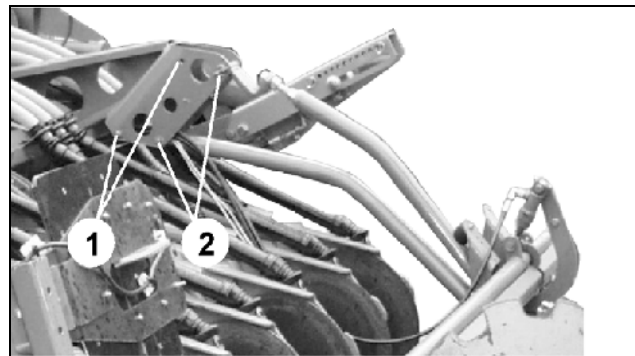

Fig. 37
- Make use of the fixing points (Fig. 37/1) when using WS or ROTEC-coulters.
- Make use of the fixing points (Fig. 37/2) when using ROTEC+-coulters..